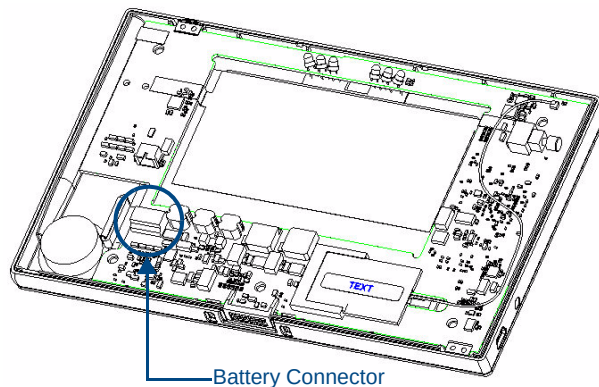

FIG. 85 Interior of MVP-5100, including female battery connector
4. Carefully remove the back of the device and detach the battery lead at the battery connector (FIG. 85). This will allow the back cover to be detached from the device.
2. Make sure to seat fully the battery plug to the connector in the device (FIG. 85). If fingers cannot be used, use a clean, nonconductive stick or probe to seat the plug in the connector.